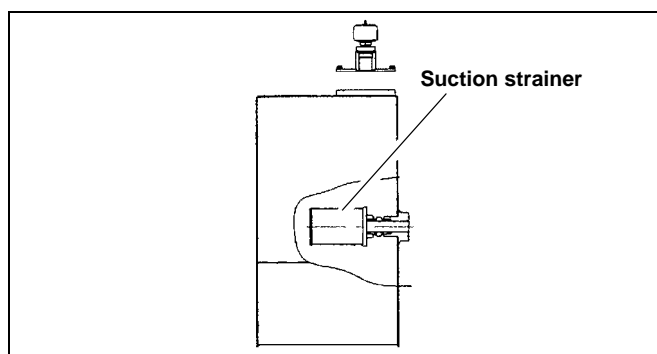

Figure 4-29
1. After draining the HST oil, unscrew the strainer from the hydraulic reservoir and remove. Figure 4-29